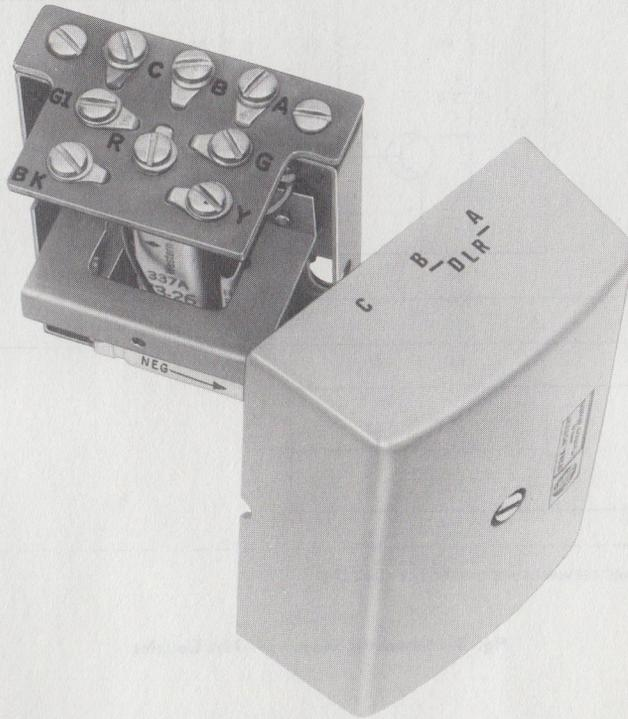

Fig. 2—23A Coupler, Top View (Cover Removed)
3.02 Connect telephone line and telephone set mounting cord to screw terminals on terminal board at top end of coupler as shown in Fig. 2 and 3.